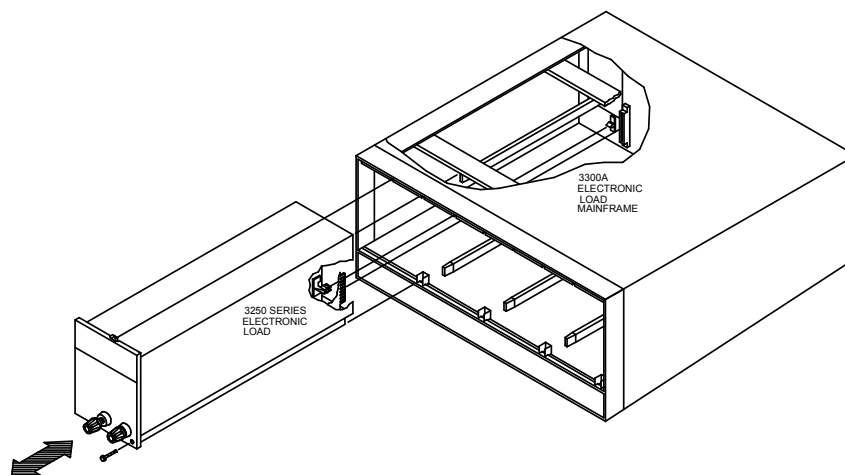

Fig.2-2 Installation & Removal of 3250A Series Electronic Load Module
- 2.1.3 As shown in Fig.2-2, push 3250A Series Electronic Load into the Mainframe by pressing against load input terminal on the front panel for pushing toward the Mainframe until full engagement is made.